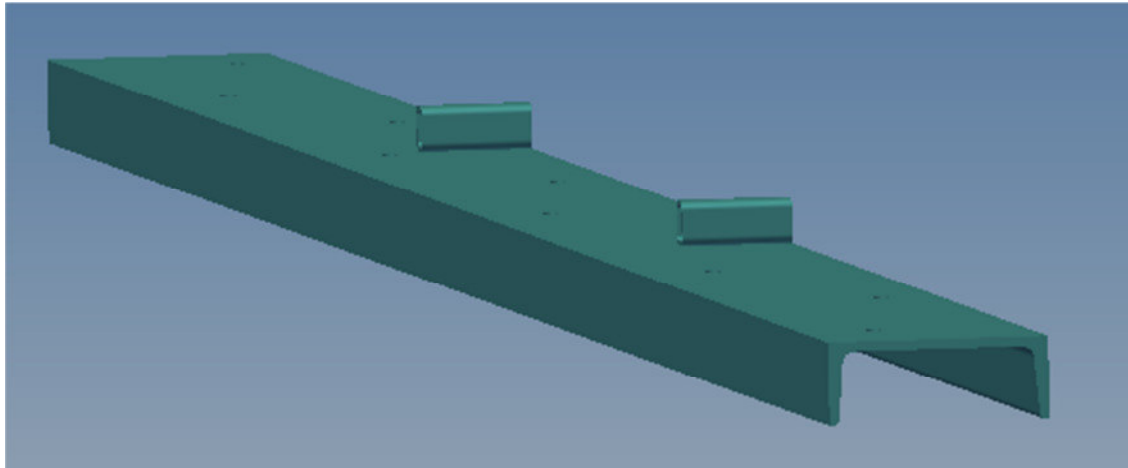

Fig. 7 Top chord incl. brace adapting bush (Excerpt)
3.2.9 The pillars adapting the sloped bracing (Fig. 7) have to be installed at the provided places according to the position plan and will be fixed at the ground plate by means of the delivered dowels. Simultaneous they have to be fixed by welding at the top chord on the description of the static calculation. Subsequently the sloped brace has to be installed as described in item 3.2.8 and then coupled at the tension rod off the foundation by using a connecting socket.